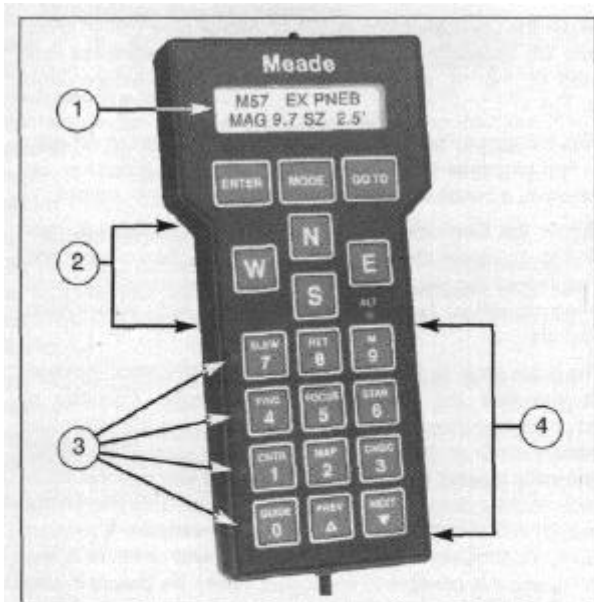

Fig. 5: Keypad Hand Controller. (1) Display; (2) Direction Keys; (3) Speed Indicator LEDs; (4) Speed Selection Keys.
- d. Turn on the power switch on the power panel of the LX200. The keypad display (1, Fig. 5) will show "MEADE" for several seconds as the microprocessor does a self-diagnostic test. When the self-diagnostic test is complete, the display will show "TELESCOPE" on the top line, "OBJECT LIBRARY" on the lower line, and the red LED light next to the "SLEW" button will light up.
- e. At this point, the LX200 is ready to use. Select the speed at which you want to move the telescope by pressing the appropriate Speed Selection Key (4, Fig 5). Note that you will be able to "see" the telescope move only in the SLEW and FIND modes; CNTR (center) and GUIDE motions can only be seen while looking through the telescope. The red LED next to that key (3, Fig. 5) will light, indicating the speed selected. Then press one of the four direction keys (2, Fig. 5) to move the telescope in that direction at the selected speed.